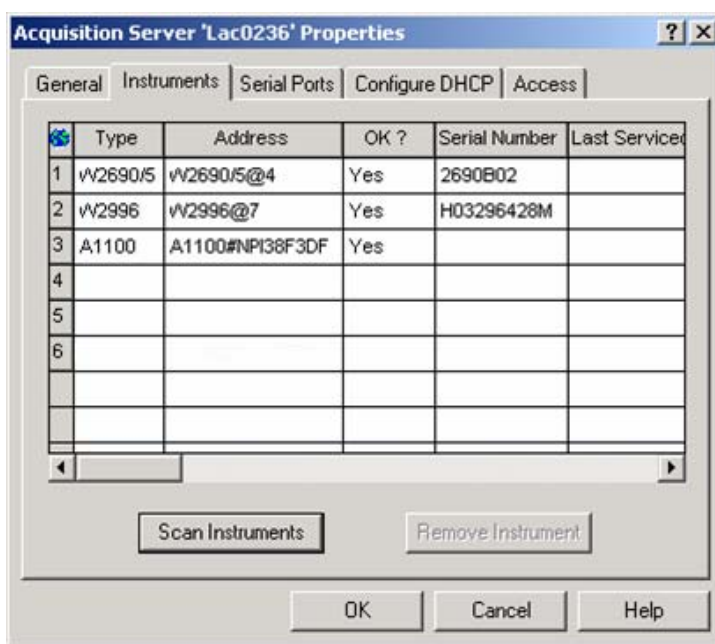

Figure 11: Acquisition Server Properties Page
19. Select the Instruments Tab in Acquisition Server Properties (Figure 11).